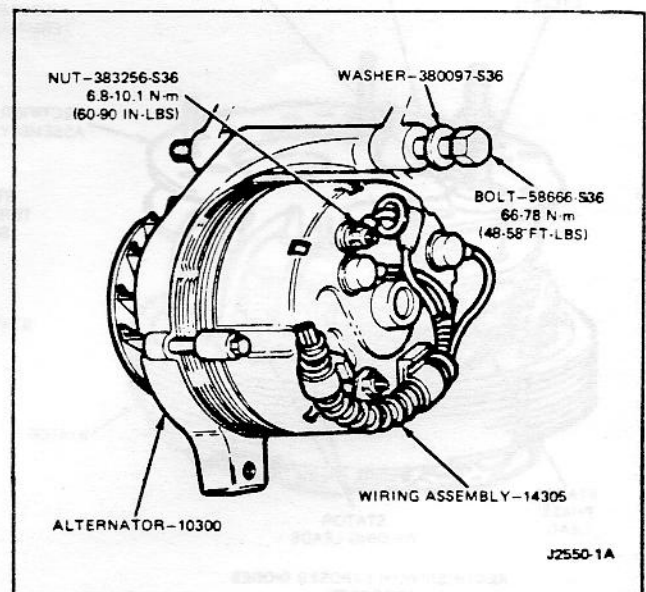

Fig. 12 - Wiring Harness Connections - Typical
3. Connect the wiring terminals to the back of the alternator (Fig. 12).